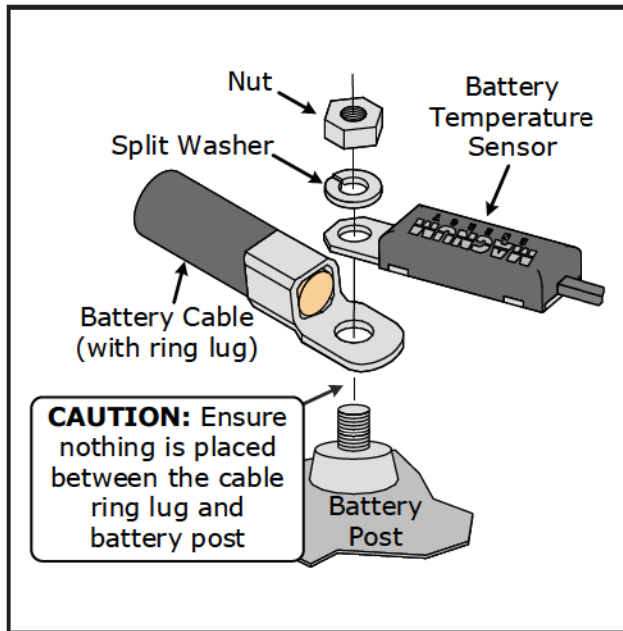

Figure 2-5, Battery Hardware Installation
Refer to Figures 2-5 and 2-6 for the correct way to connect the DC cables and to stack the hardware. Tighten the DC cable connections from 10 to 12 ft lbf (13.6 to 16.3 Nm).
1. Attach the ring terminal end of the Battery Temperature Sensor (BTS) to the negative battery terminal (see Figure 2-5 for proper connection to the battery terminal).
Ensure the DC wire connections (on the batteries, inverter, and DC circuit breaker) are flush on the surface of the DC terminals, and the hardware (lock washer and nut) used to hold these connections are stacked correctly (see Figures 2-5 and 2-6). Verify all DC connections are torqued from 10 to 12 ft lbf (13.6 to 16.3 Nm).